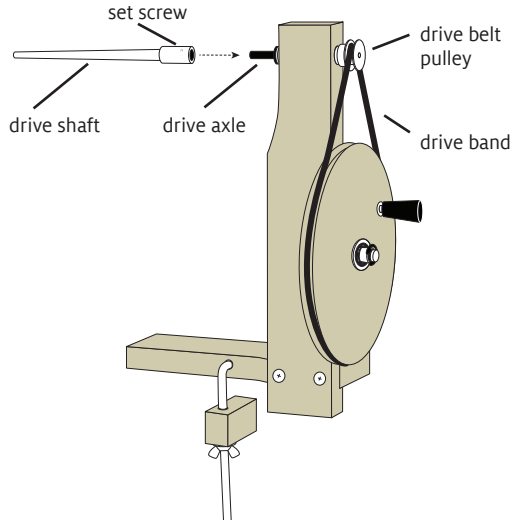

FIGURE 3: INSTALL DRIVE SHAFT (SINGLE END WINDER ONLY)
2. Install the drive band around the shaft pulley and the drive wheel (Figure 3). Double end winders are ready for use; for single- end, continue to the next section.
1. Place the drive shaft on the drive axle at the top of the upright. Line up the set screw in the long shaft with the flat side of the drive axle (Figure 3).